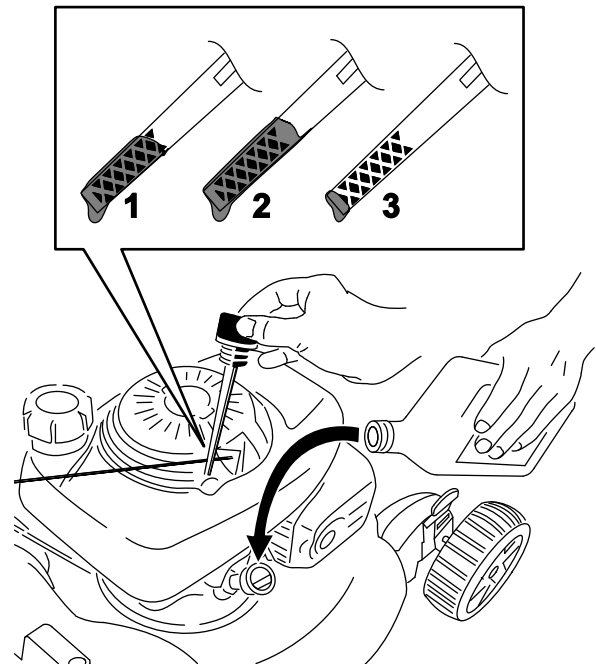

Figure 19
3. Remove the dipstick by rotating the cap counterclockwise and pulling it out (Figure 19).
4. Tip the machine onto its side (so that the air filter is up) to drain the used oil from the oil-fill tube (Figure 19).
10. Read the oil level on the dipstick (Figure 19).